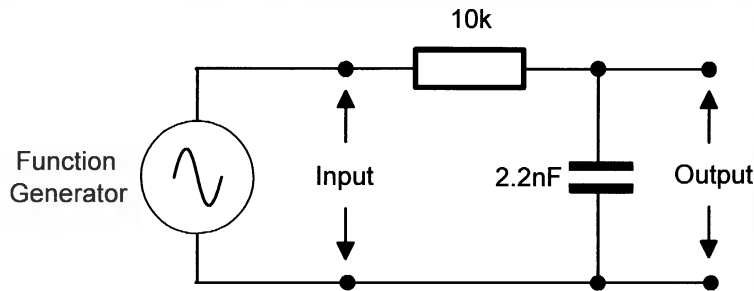

Figure 1
3. Wire the filter in Figure 1.